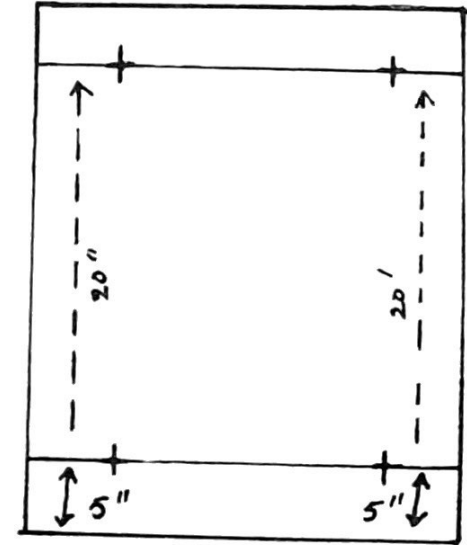

Fig.15
- 5) Tape down the positive, and expose the screen as described earlier. (see fig.15)